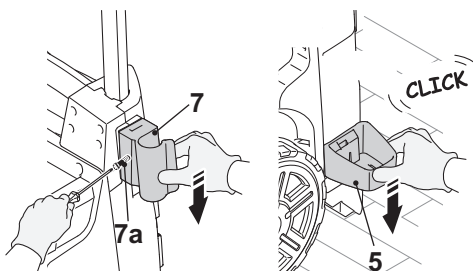
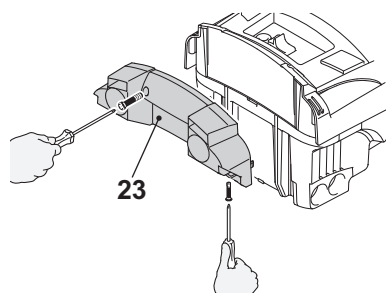

Fig. 3
Fig. 4
- > Slide the upper spray gun hold (7) to the product and secure it with the screw (7a) (Fig. 3).
- > Attach the lower spray gun holder (5) to the product. Ensure it engaged properly.
- > Attach the foot (23) using four screws (20) (Fig. 4).